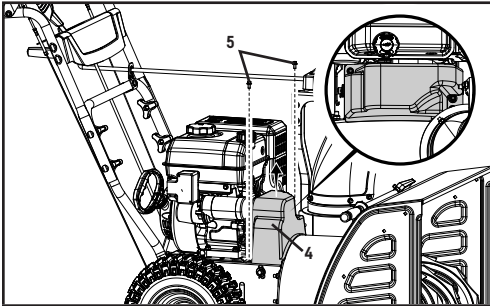

Figure 34
1. Remove the plastic belt cover (4) on the front of the engine by removing two M6 × 16 bolts (5) (Fig. 34).